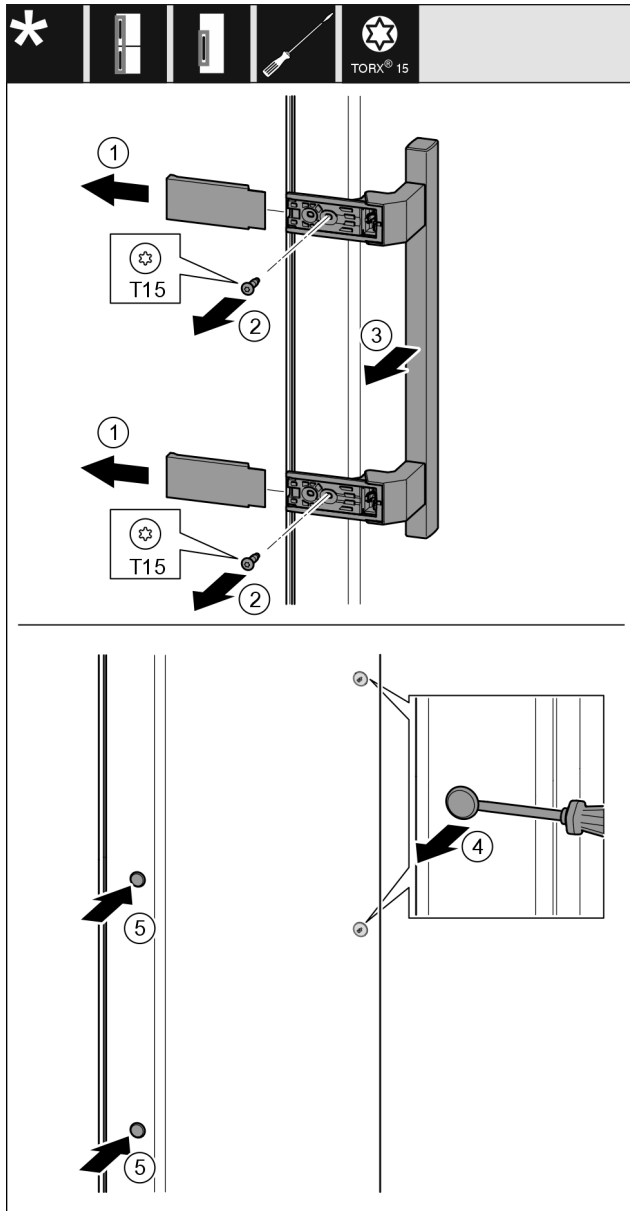

Fig. 18
- Remove the cover Fig. 18 (1).
- Unscrew screws Fig. 18 (2) with screwdriver.
- Remove the handle Fig. 18 (3).
- Use a slotted screwdriver to lift the side plug Fig. 18 (4) carefully and pull it out.
- Re-insert the plug Fig. 18 (5) on the other side.